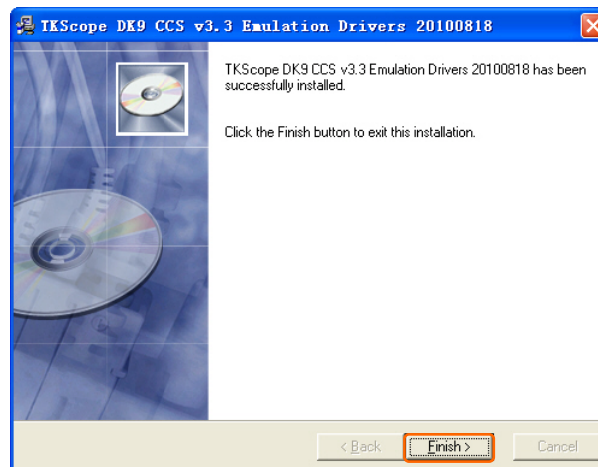

Figure 2.4 Driver installation is complete
4. After the installation path, Click [Next] to continue until the installation is completed, as shown in Figure 2.4. Click [Finish], the installation is completed.